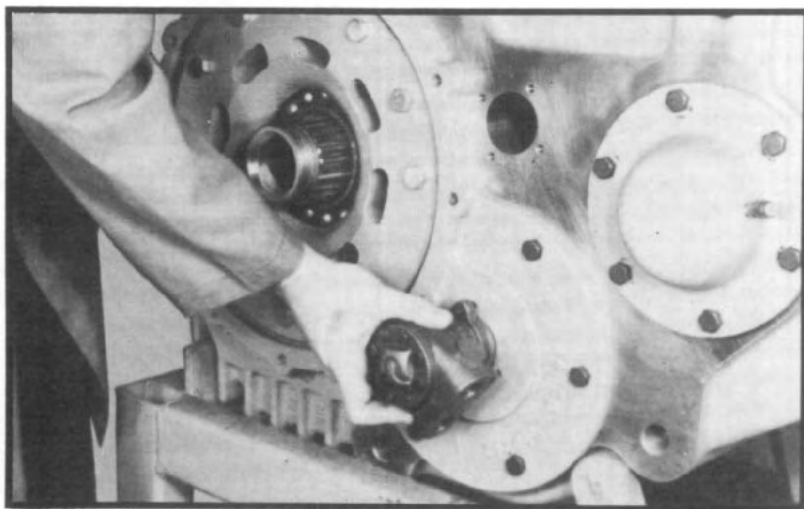

Fig. 149
- 3.14 Install oil pump, with ports facing towards top of case, (See fig. 149.) and gasket to rear face plate using three capscrews. Tighten capscrews to correct torque. If oil pump has been disassembled, consult Section VII-I.